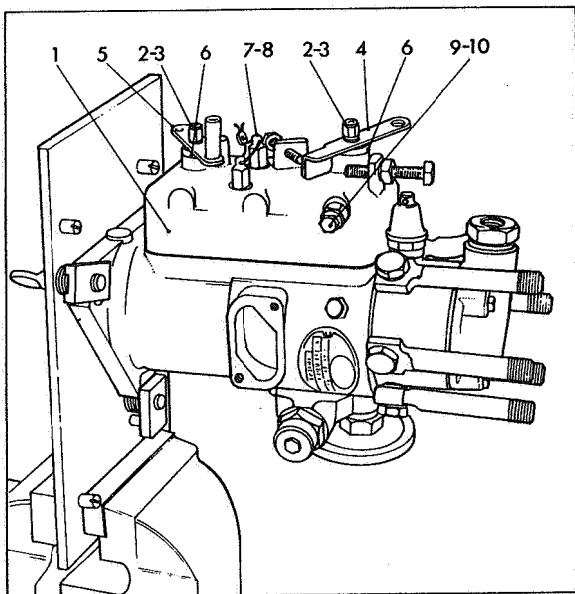

Fig 68 Pump & mounting fixture
Secure Fixture Part No 7044-888F in vice. Secure the pump to the fixture with governor control cover (1) uppermost as shown in Fig 68.